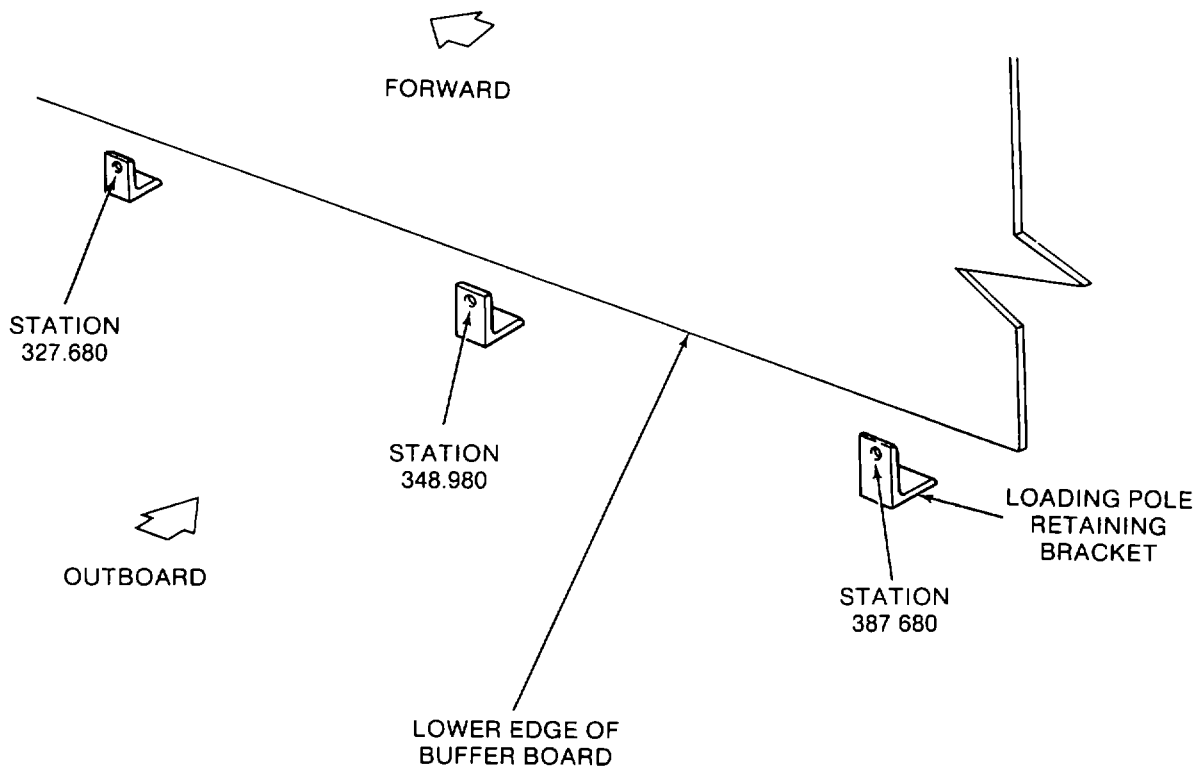

Figure 2-1. Loading Pole Retaining Bracket Locations
(1) Remove loading pole retaining brackets located at stations 327.680, 348.980 and 387.680 on right-hand side of aircraft (Figure 2-1) and discard brackets.